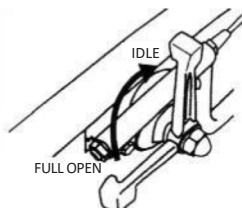

Fig.11
- Move throttle lever quickly from the FULL OPEN to IDLE position (Fig 11) and run the engine for three minutes at low speed. After the engine cools, turn the engine start/stop switch to the "STOP" position (Figure 6) until engine comes to a complete stop.